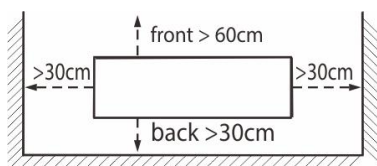

Fig. 1
3. The chiller unit must be installed in a condition with good ventilation. Keep the clearance of at least 30cm for the back (air inlet) and two sides and at least 60cm for the front (air outlet). See the Fig.1. More clearance should be provided when the machine works in high power. Otherwise, the cooling efficiency will be reduced or even cause malfunction.